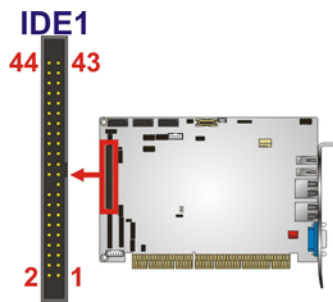

Figure 3-11: IDE Device Connector Location
- CN Location:** See **Figure 3-11**